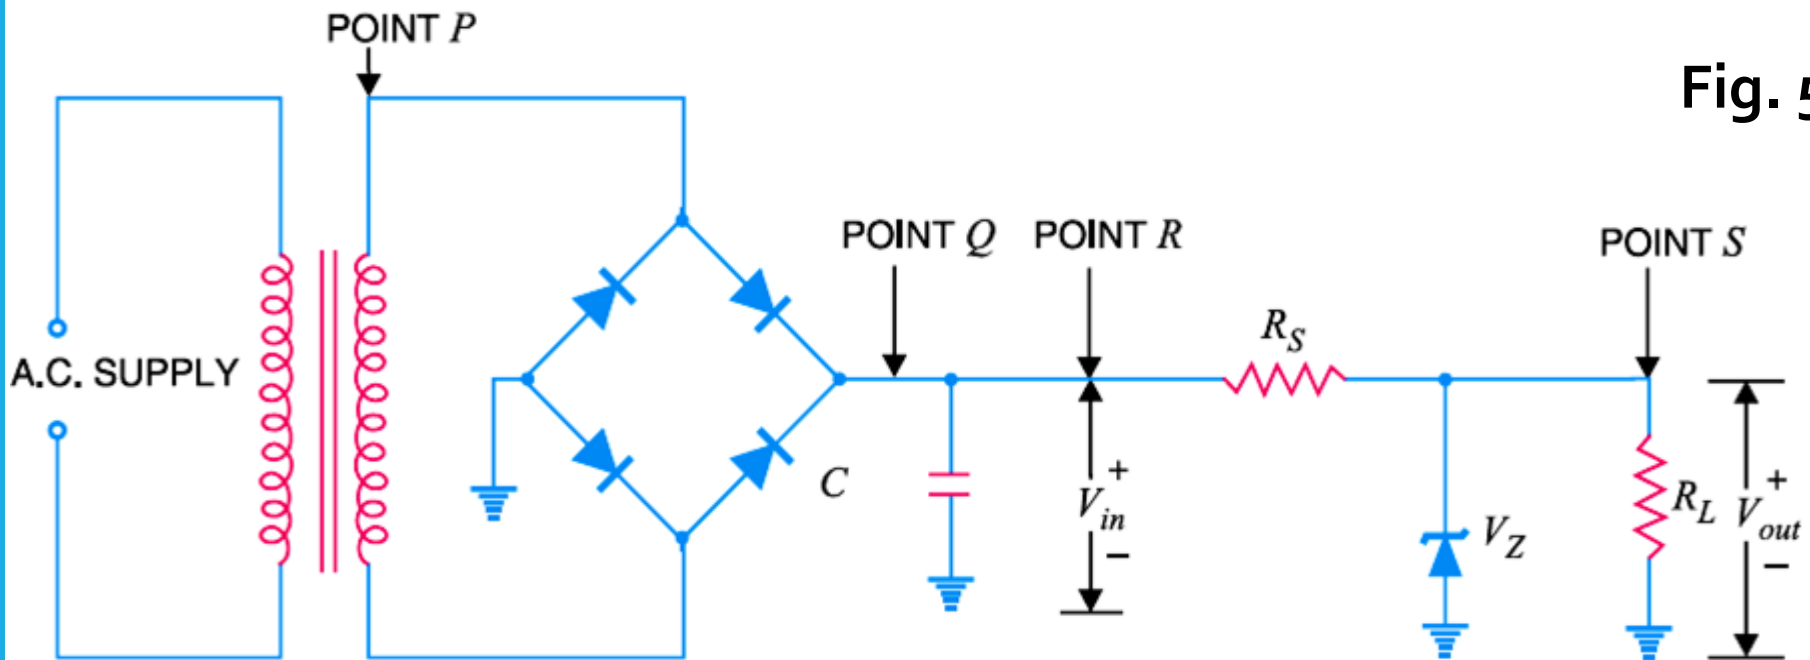

Fig. 5
- ❖ Fig. 5 shows the complete circuit of a regulated power supply using Zener diode as a voltage regulating device.